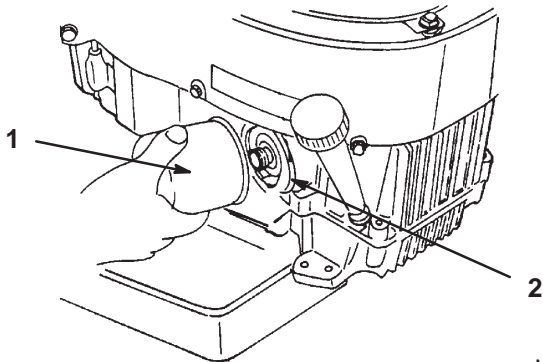

Figure 28
2. Remove the old filter (Fig. 28).
3. Apply a thin coat of new oil to the rubber gasket on the replacement filter (Fig. 28).
4. Install the replacement oil filter to the filter adapter. Turn the oil filter clockwise until the rubber gasket contacts the filter adapter, then tighten the filter an additional 3/4 turn (Fig. 28).